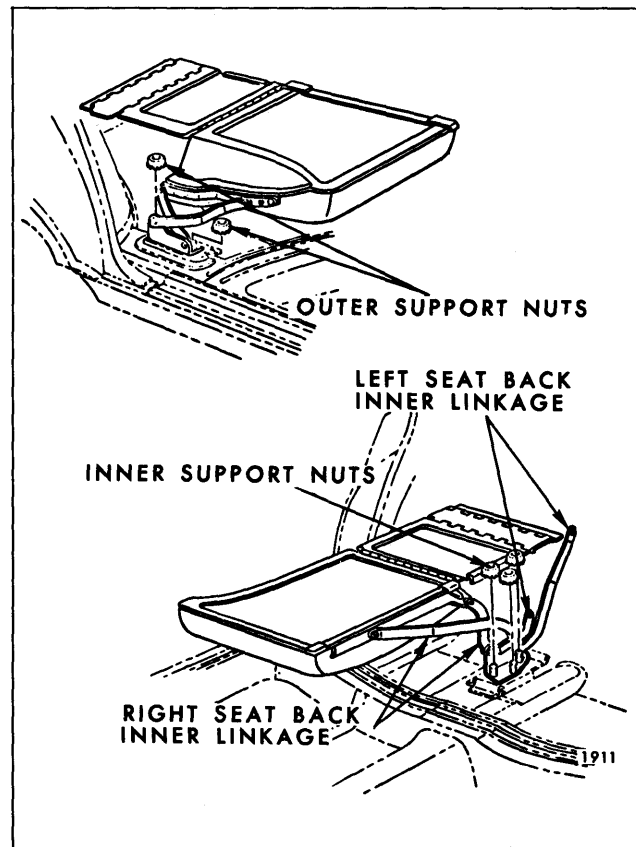
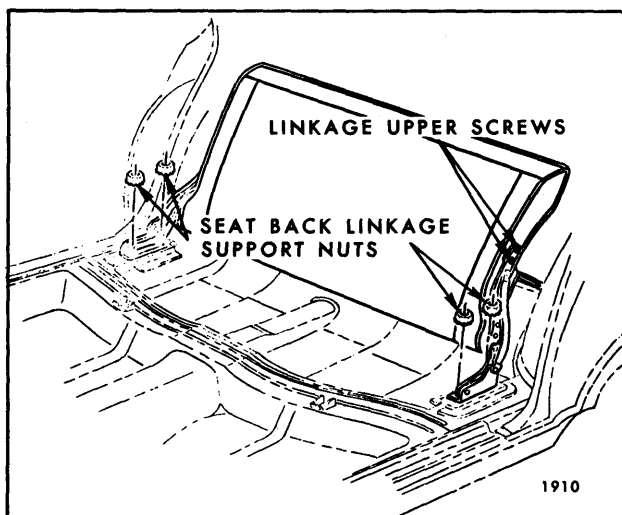

Fig. 15-62—Folding Second Seat Back Supports and Linkages (Split Seat)
Fig. 15-61—Folding Second Seat Back Supports (Full Width Seat)
3. Mark position of folding second seat back linkage supports on floor pan. Remove nuts from both sides of seat back securing linkage supports to floor pan (See Figure 15-61), full width seat (Fig. 15-62) for split seat.
5. Remove nuts securing linkage support to floor pan (See Fig. 15-61), then carefully remove linkage assembly from seat back and floor pan.
3. Remove nuts securing inner linkage assembly to floor pan (See Fig. 15-62).